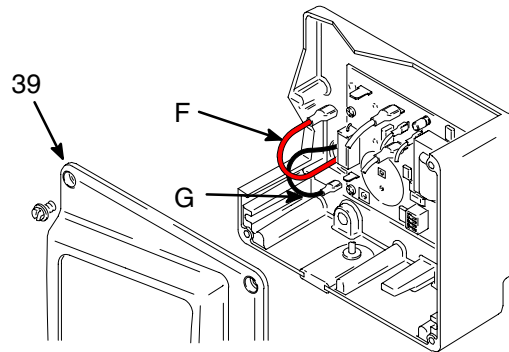

Fig. 2
3. Fig. 2. Remove pressure control cover (39). Disconnect motor leads (F) and (G).